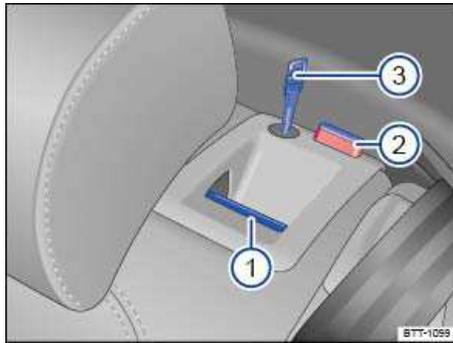

Fig. 100 Rear seat backrest: Release button 1; red mark 2; emergency key in lock 3.
- If necessary, use the emergency key to unlock the release button as shown ⇒ fig. 100 \(3\).
- Pull the release button (1) forward while folding the rear seat backrest forward.
- The rear seat backrest is unlocked when the red mark on the button (2) is visible.
- The rear seat backrest is unlocked when the red mark on the button ⇒ fig. 100 \(2\) is visible.